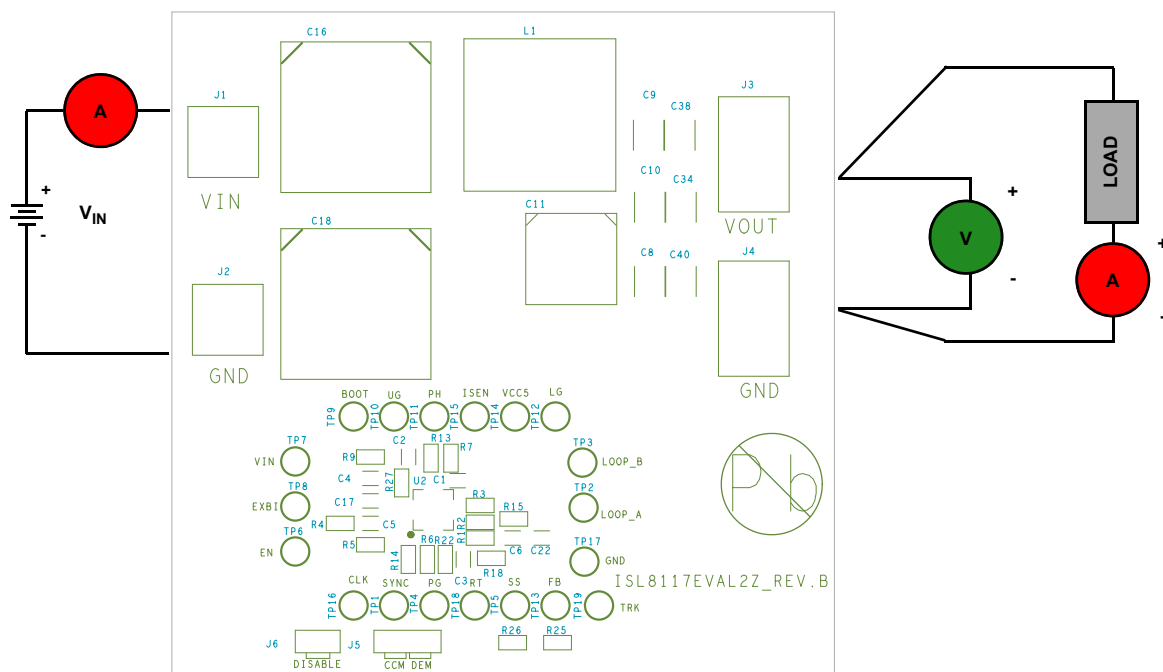

FIGURE 3. PROPER TEST SET-UP
1. Jumper J5 provides the option to select CCM or DEM. Please refer to Table 2 for the desired operating option. Ensure that the circuit is correctly connected to the supply and electronic loads prior to applying any power. Please refer to Figure 3 for proper set-up.
As shown in Figure 3 on page 3, 18V to 60V V_{IN} is supplied to J1 (+) and J2 (-). The regulated 12V output on J3 (+) and J4 (-) can supply up to 20A to the load. Due to the high thermal efficiency, the evaluation board can run at 20A continuously without airflow under room temperature ambient conditions.